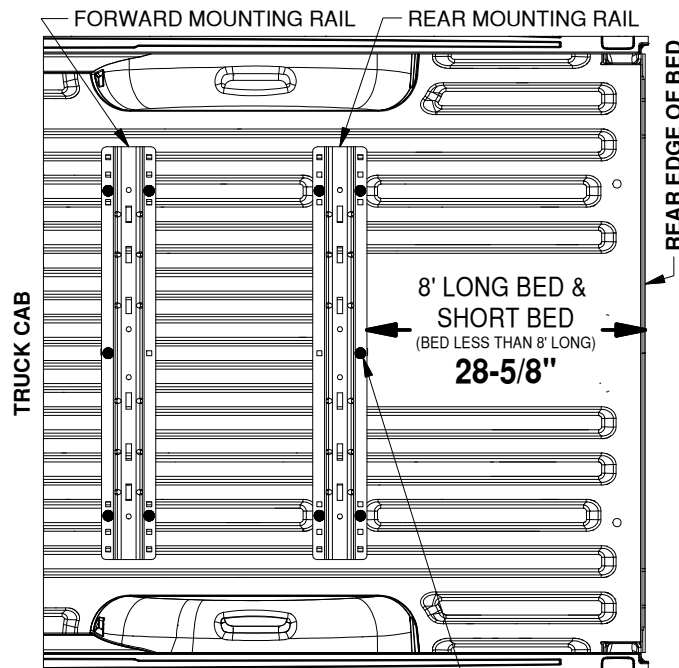

Figure B1: View over bed, showing drill locations for the forward and rear rails.
- Layout the rear mounting rail.** Place a mounting rail onto the bed of the truck. Hook a tape measure over the rear edge of the bed (not on any part of the tailgate), measure the location for the mounting rail as shown in Figure B1. Next, center the mounting rail in the bed by measuring the distance on either side from the edge of the rail to the side of wheel well. The rail will be centered when both measurements on either side of the rail are the same.
- Mark hole locations.** While carefully ensuring the mounting rail does not move, use a center punch tool to mark the 5 drill locations on the rear rail. See Figure B1 for hole marking locations for this installation (forward rails will install in a later step). Once all 5 rear rail locations are clearly marked, move the bed rail out of the way and drill each location with an 1/8" drill bit.
2. **Drill forward mounting holes.** Using the same methods as used for the rear mounting rail mark, drill, check, and enlarge the holes for the forward mounting rail. Refer to "ENLARGE HOLES & INSTALL SIDE PLATES" section, Steps 1 through 2, on previous page. Notice that the hole locations are slightly different than the rear rail, see Figure B1 (on the second page).